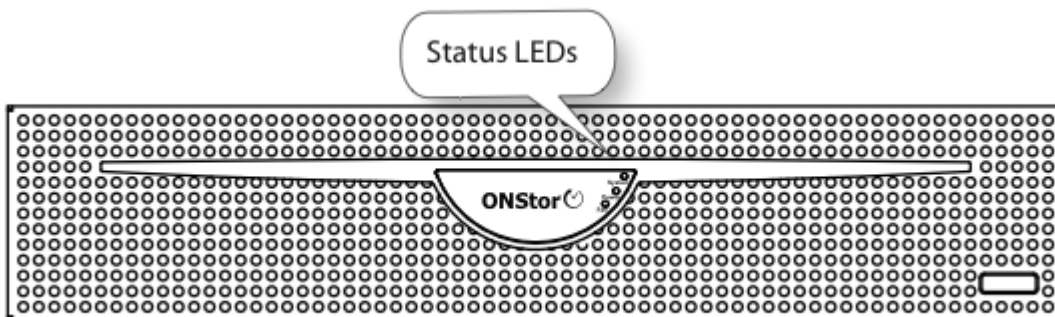

Figure 6-3 Cougar Fascia Status LEDs
Step 1: The system, power supply, and fan LEDs should be glowing steadily green. Figure 6-3 shows the fascia with the status LEDs.